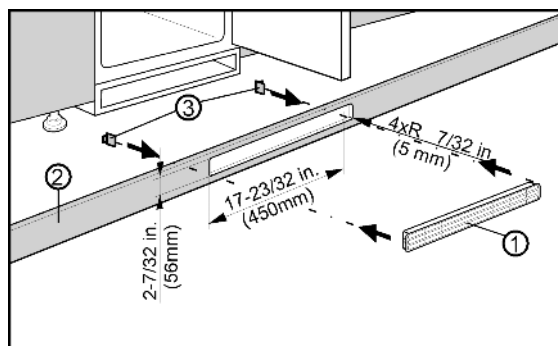

Fig. 8
Ventilation from underneath through the floor of the kitchen cabinet can be set up with the supplied ventilation grid *Fig. 8 (3)* or an air vent with at least a 31 in2 (200 cm2) cross section area. If you use the supplied ventilation grid *Fig. 8 (1)* please proceed as follows:
- Insert the ventilation grid *Fig. 8 (1)* into the cut out in the cabinet floor *Fig. 8 (2)*.
- Slide the snap connectors *Fig. 8 (3)* into the grid from behind until the hooks touch the cabinet floor.